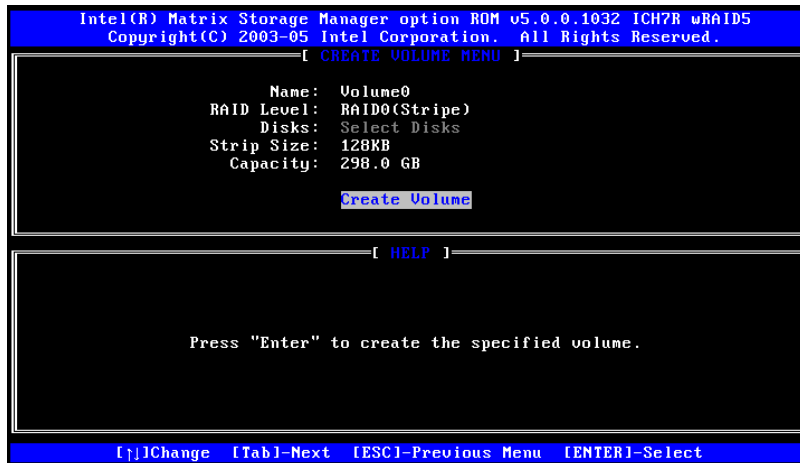

Figure G-6: Create the RAID Volume
Step 6: Create the RAID Volume. Press **ENTER** to create the RAID volume as specified. See **Figure G-6**.